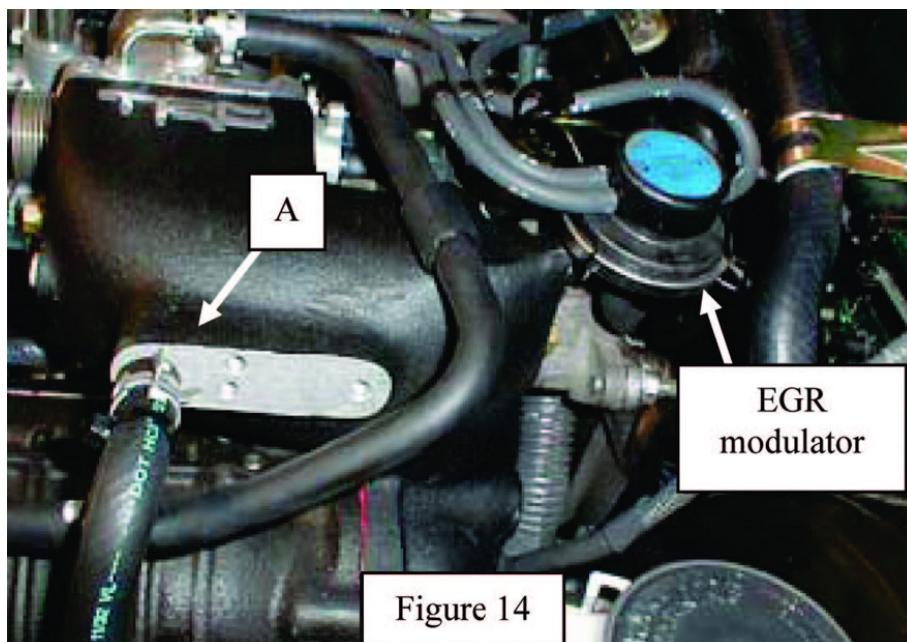

Figure 14
28.) Connect brake booster vacuum hose to charger at location outlined in Item "A" (See Figure 14) Cut hose shorter if needed.